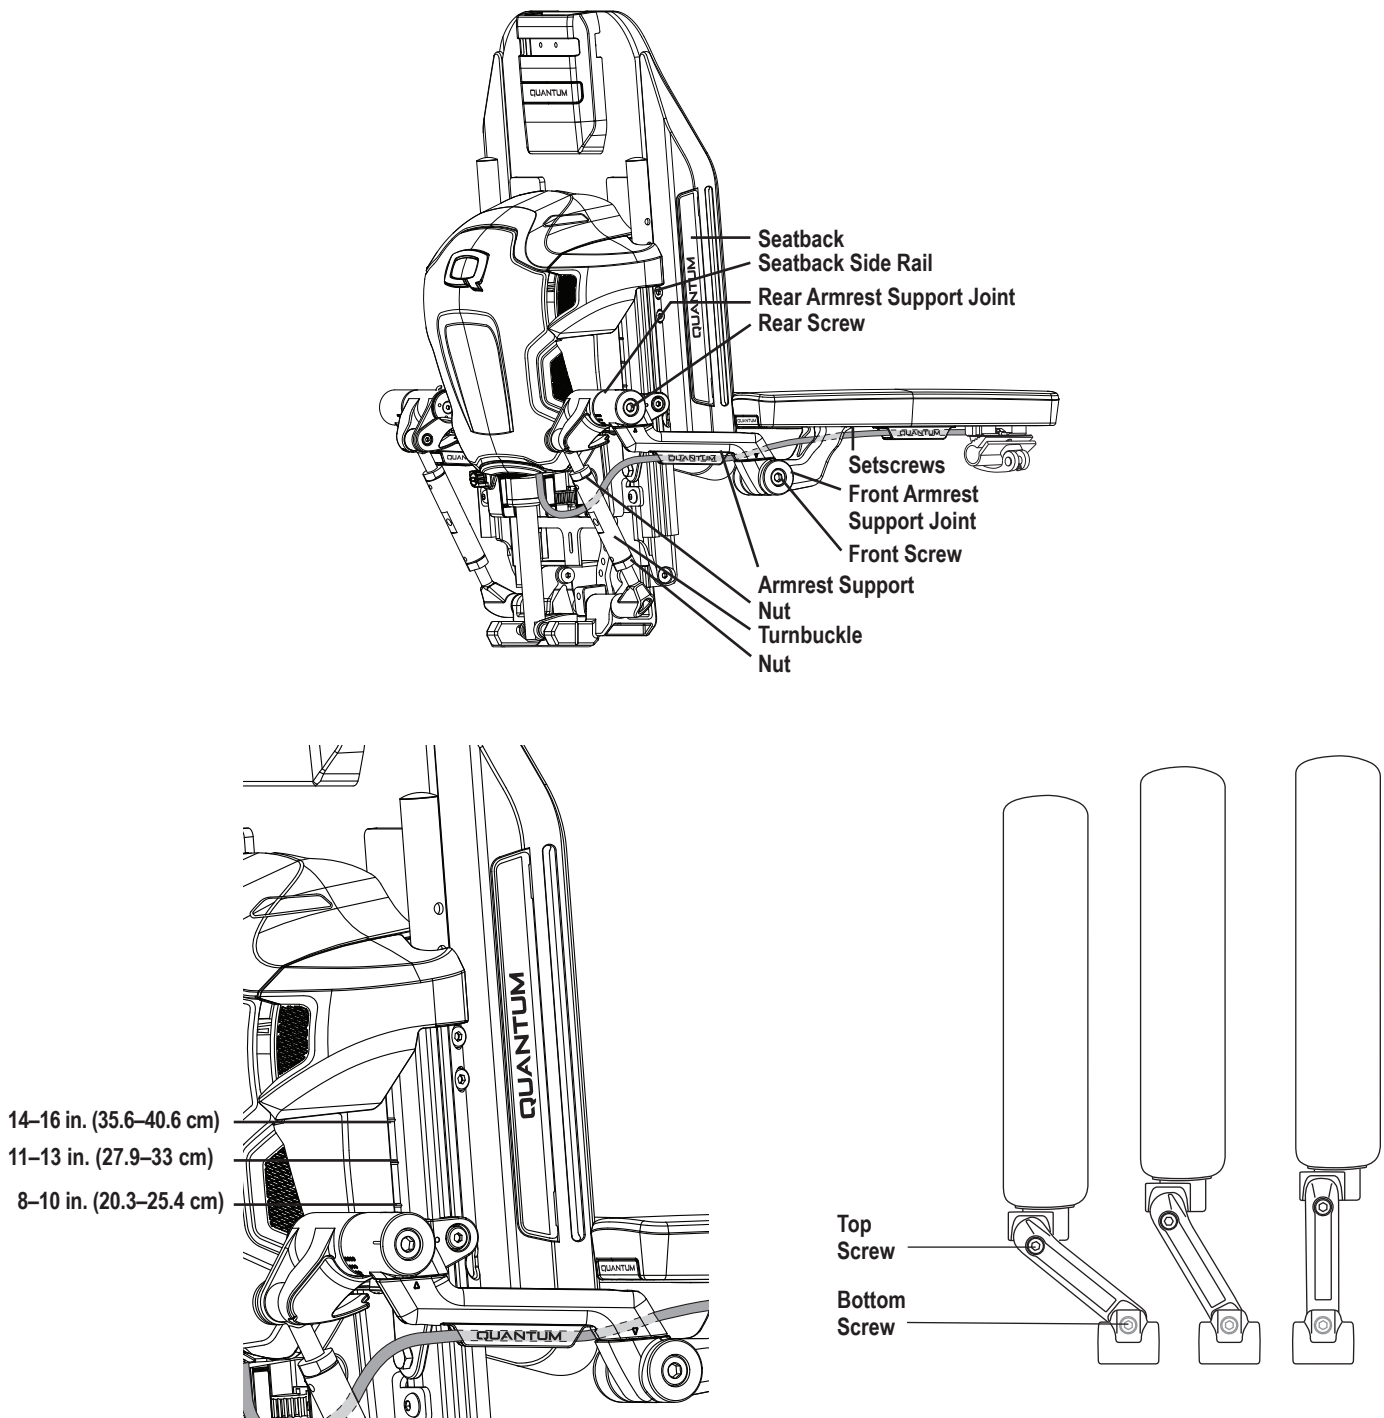

Figure 6. Flip-up Armrest Height and Angle Adjustments
2. Loosen rear screw on rear armrest support joint. **See figure 6.**
3. Make sure on seatback side rail your rear pivot link is mounted to proper height relative to back. **See figure 6.**
5. Raise or lower the armrest to set armrest to the desired height or location mark. **See figure 6.**
7. Loosen front screw on front armrest support joint. **See figure 6.**
9. Tighten front screw on front armrest support joint. **See figure 6.**
2. Loosen nut, if necessary. **See figure 6.**
4. Tighten front screw on front armrest support joint. **See figure 6.**
5. Tighten nut if necessary. **See figure 6.**
1. Loosen bottom screw underneath the rear of the armrest support and adjust to the desired width. **See figure 6.**
3. Loosen top screw on top of armrest support joint and adjust to make the armrest perpendicular to the seat pan. **See figure 6.**
2. Remove the rear screw of the rear armrest support joint. **See figure 6.**
1. Support the weight of the armrest. **See figure 6.**